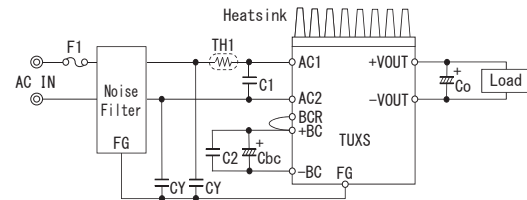

Fig.2.1 Connection for standard use
■ To use TUXS series, connection shown in Fig.2.1 and external components are required.
(1) Co : Output capacitor
■ Install an external capacitor Co between +VOUT and -VOUT pins for stable operation of the power supply (Fig.2.1).